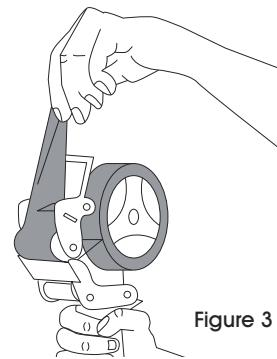
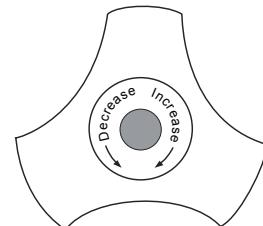

Figure 3
Figure 4
3. Pull tape over smoothing roller allowing tape to unroll freely off tape wheel. (See Figure 3) To unwind tension, see Figure 4.